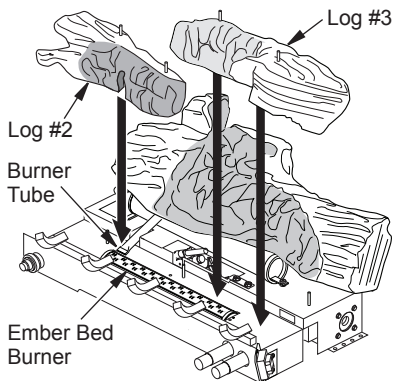

Figure 24 - Installing Logs #2 and #3
2. Place left front log (log #2) over burner tube as shown Figure 24. The front of log #2 sits behind the ember bed burner.
3. Place right front log (#3) to right of and behind ember bed burner on base as shown in Figure 24.